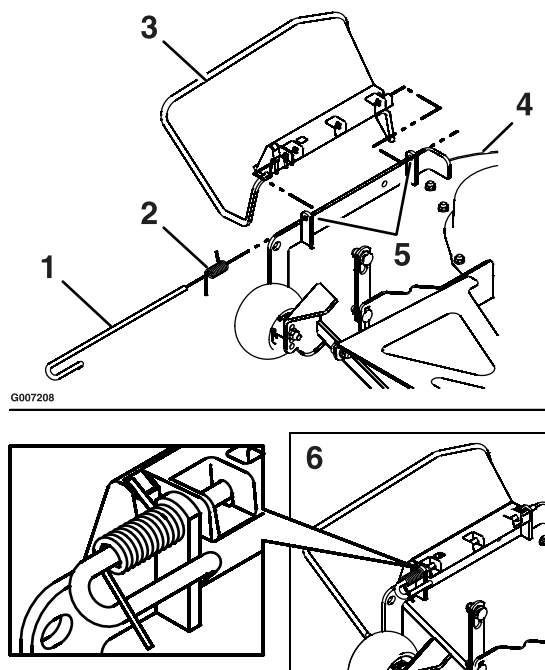

Figure 13
- Locate items shown in Figure 13.
- Orient the spring so that the short leg points towards the discharge deflector and the longer leg points towards the deck as shown in Figure 13. Place spring on rod and slide rod, straight end, through the front discharge deflector bracket, discharge deflector, and rear deflector bracket.
- Make sure that the spring and rod are installed so that the rod is retained from sliding out by the front bracket and the spring holds the discharge deflector in the down position. Refer to (Figure 13) for proper orientation.